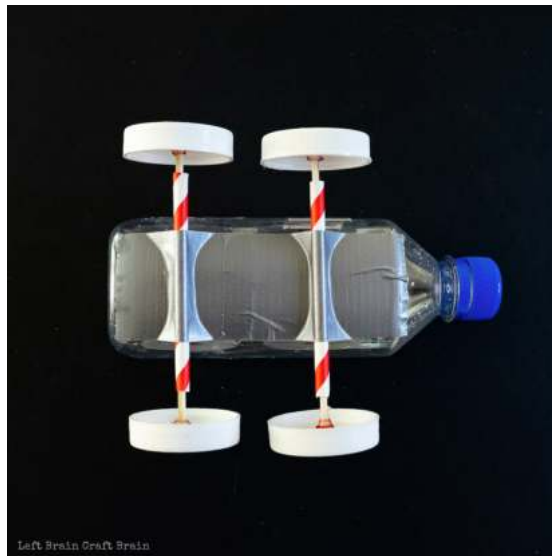

Figure 4: The body of the car with the two axles attached.
- 9) Tape the paper straw halves parallel to each other and to perpendicular to the long direction of the bottle. This is shown in figure 4.